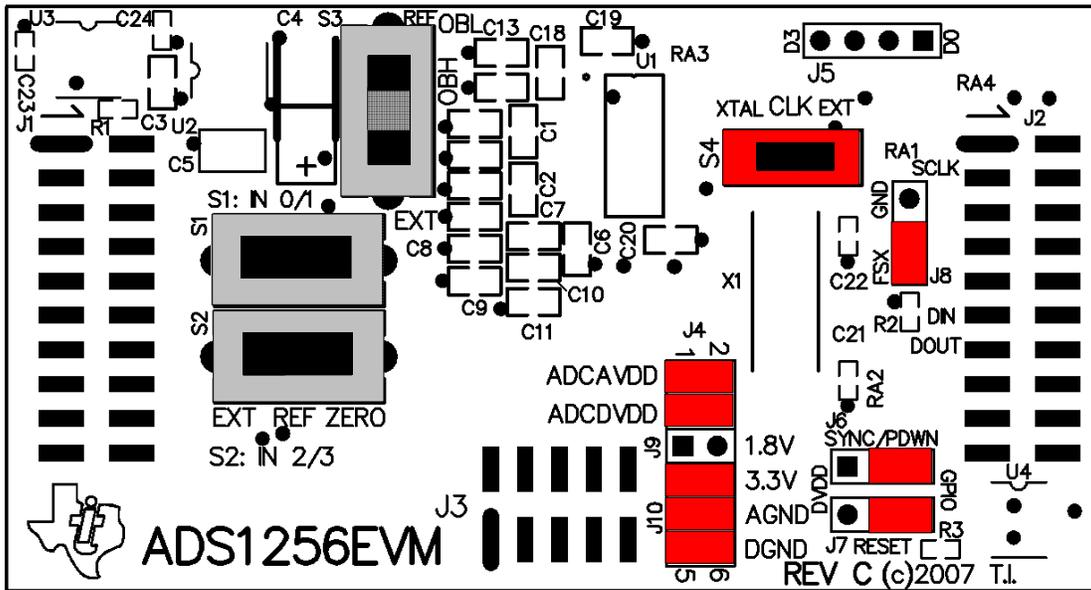

Figure 1
The jumper and switch configuration for the ADS1256EVM test set-up is shown in Table 3 below and in Figure 1.
2. Verify all jumper settings for both the MMB0 and ADC EVM board against Table 2 and, Table 3 above for each respective board. Figure 1 is in place for further detail of the appropriate jumper settings.